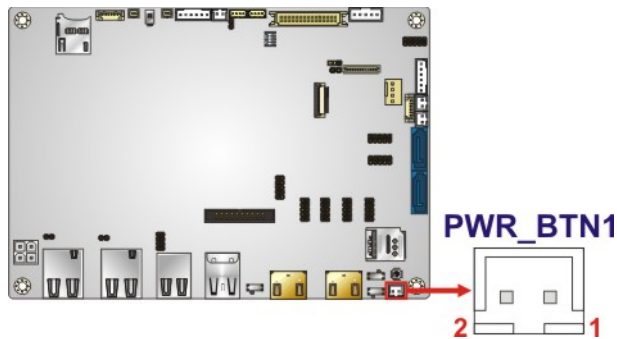

Figure 3-22: Power Button Connector Location
- CN Location:** See **Figure 3-22**